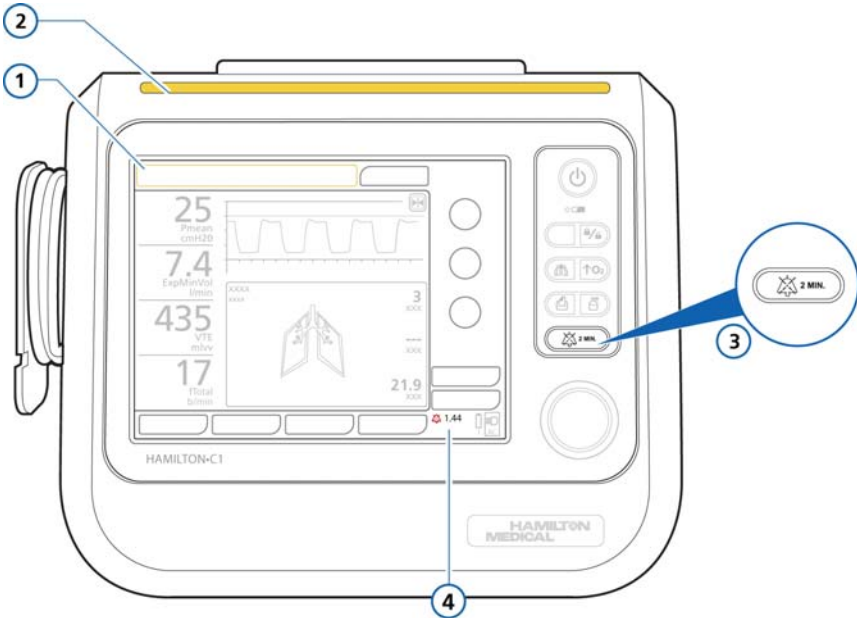
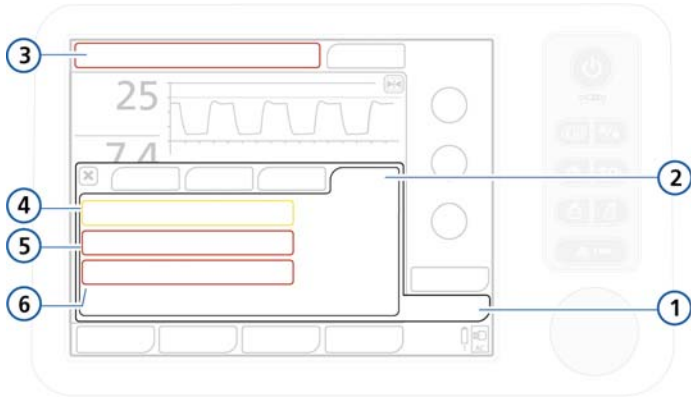

Figure 8-1. Visual alarm indications
Figure 8-4. Alarm buffer with active alarms
Table 8-1 shows the audio and visual characteristics of these types of alarm and tells you how to respond. Figure 8-1 shows the ventilator's visual alarm indications. You can view active alarms in the active alarm buffer (Figure 8-4). Information about the alarm is also stored in an event log (Section 8.4).
- If there are currently active alarms, the alarm buffer shows the most recent active alarms (Figure 8-4). The associated alarm messages also alternate in the message bar. Active alarms are in boxes with rounded corners.